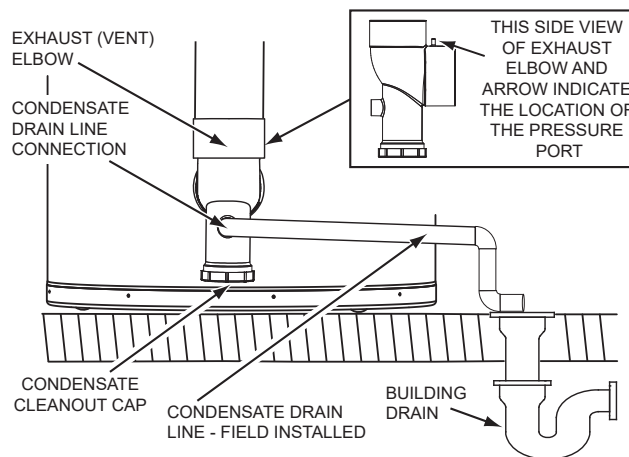

Figure 11. Exhaust/Condensate Elbow
Condensate drains from the water heater at the exhaust elbow located at the bottom. The field installed condensate drain line must not be elevated above the condensate drain connection on the built-in condensate trap, see *Figure 11*. If the condensate does not drain properly it will build up in the exhaust (vent) elbow. This will restrict the flow of flue gases and cause the Blocked Exhaust Pressure switch to open its contacts. The control system monitors all pressure switches. If the Blocked Exhaust switch contacts are open, the control system will lock out and disable heating operation. The "Blocked Exhaust Fault" message will be displayed on the control system's LCD. See *Fault and Alert Messages* (page 86).
The exhaust elbow has a built-in condensate trap. Do not install an additional trap in the condensate drain piping, see *Figure 11*.
**Do not** remove the factory-installed exhaust/condensate elbow (see *Figure 11*) for any reason. The water heater's vent pipe is under a slight positive pressure while unit is in operation. The water trap inside of the exhaust/condensate elbow prevents flue gases from escaping into the installed space. The exhaust elbow has a built in condensate trap. Do not install an additional trap in the condensate drain piping. See *Figure 11* and *Condensate Drain Installation* (page 49).